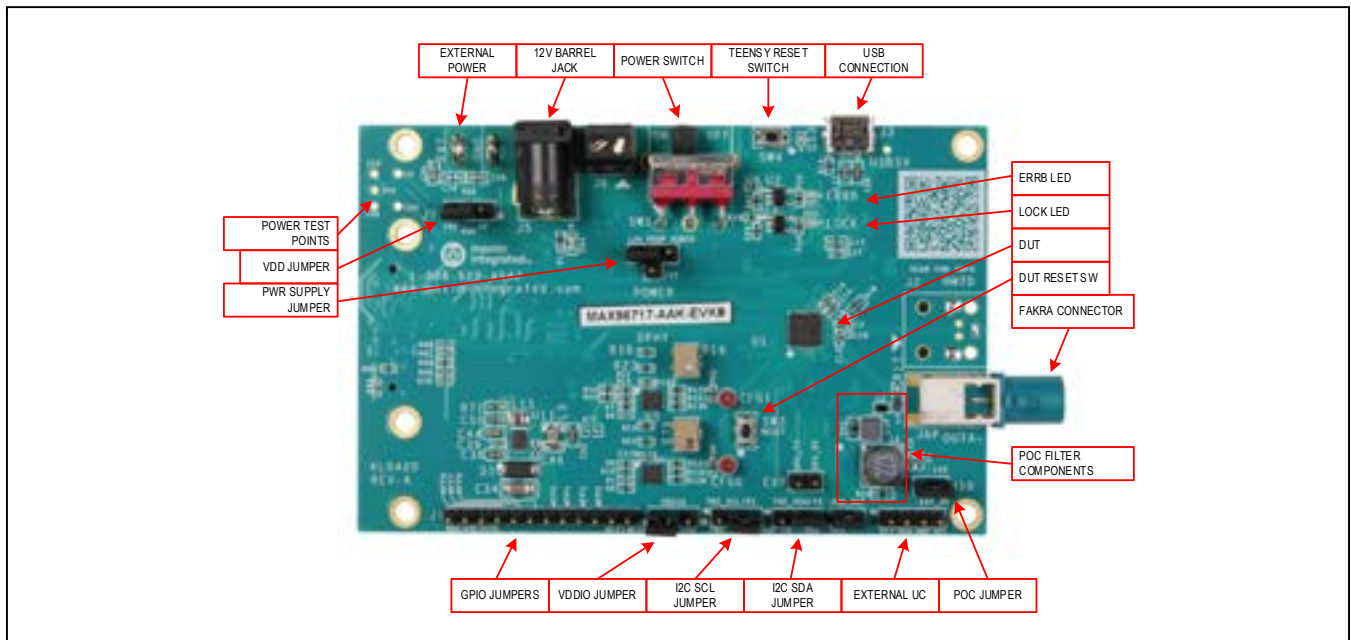

Figure 2. MAX96717/MAX96793 EV Kit Picture of Board (Top View)
- 3) Verify that jumpers on the serializer board are in their default positions, as shown in Figure 2, and SW1 is in the OFF position.